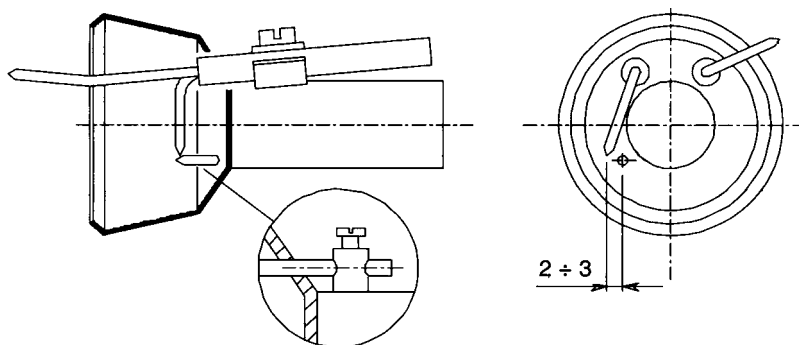
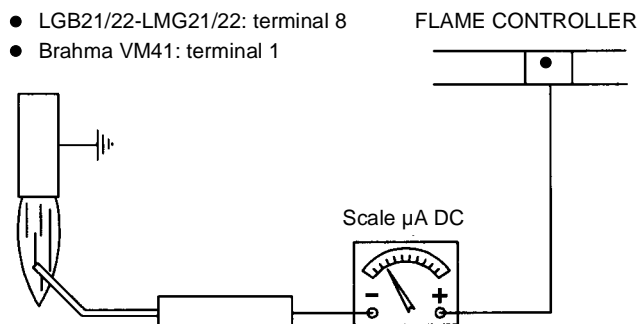

Fig. 32
Fig. 33
- Check the ignition electrode, clean and adjust it and, if necessary, replace it (Fig. 32);
- Check the detection electrode, clean and adjust it and, if necessary, replace it (Fig. 32). If in doubt, verify the detection circuit with the burner in operation, referring to the diagram in Fig. 33.
To guarantee a proper ignition, the measures indicated in Fig. 32 must be respected.
To measure the detection signal intensity, follow the scheme in Fig. 33.